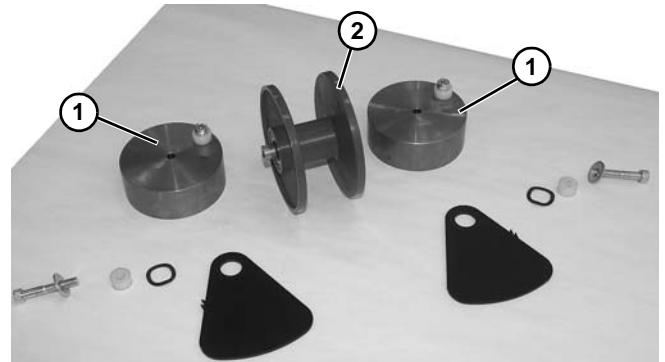

Figure 154
9. Remove weights (**Figure 154, item 1**) from each side of pulley (**Figure 154, item 2**).